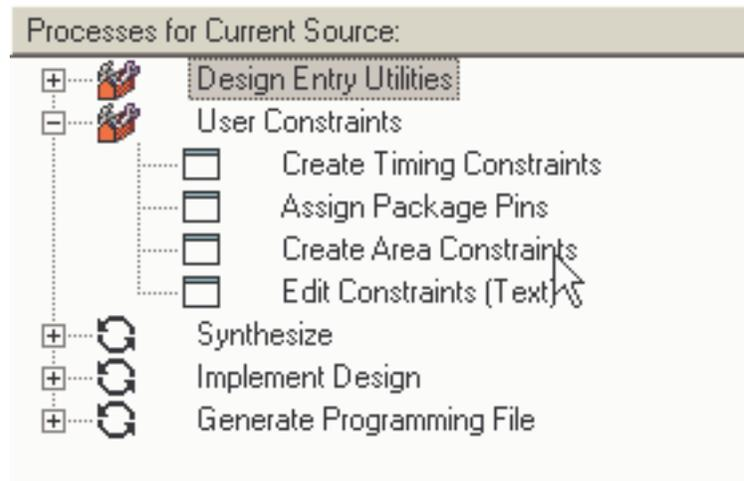

Figure 1: Opening PACE from Project Navigator
- Double-click on Create Area Constraints in the Processes window (Figure 1).